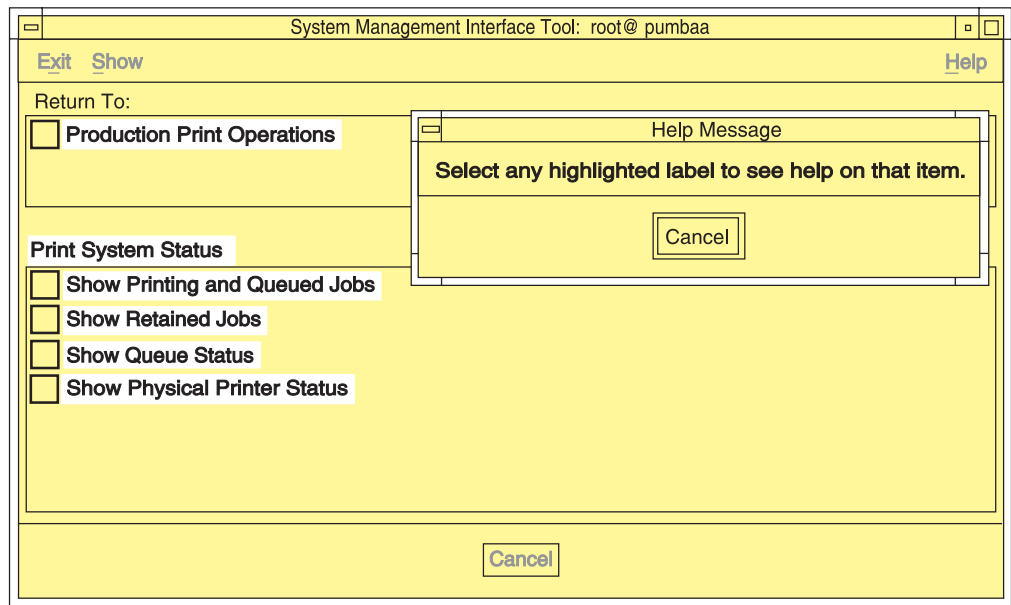

Figure 57. Help for SMIT Panel Menu Selections
1. Press **Ctrl + F1**. All the menu selections on the panel are highlighted. The mouse pointer changes to a question mark. A **Help Message** window opens with instructions on how to access help. Figure 57 on page 261 shows an example of the results of pressing **Ctrl + F1** for a SMIT panel.